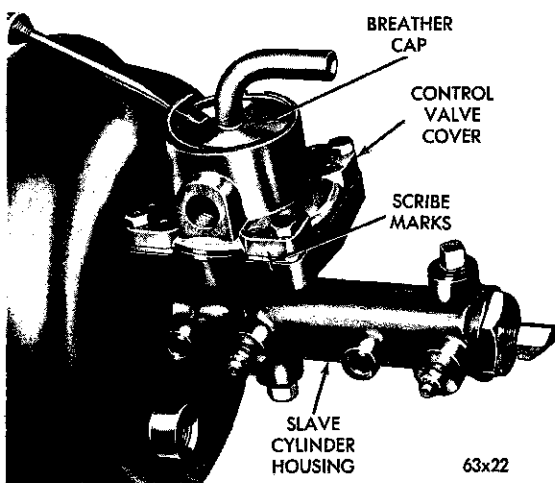

Fig. 40—Removing Snap Ring
(4) Scribe reference marks on the flanges of the control valve cover and slave cylinder housing. Remove the large snap ring and breather cap assembly from the control valve cover (Fig. 40). Remove four cap screws and lock washers that secure the control valve cover to the slave cylinder housing, and separate the two housings. The air check valve assembly con-